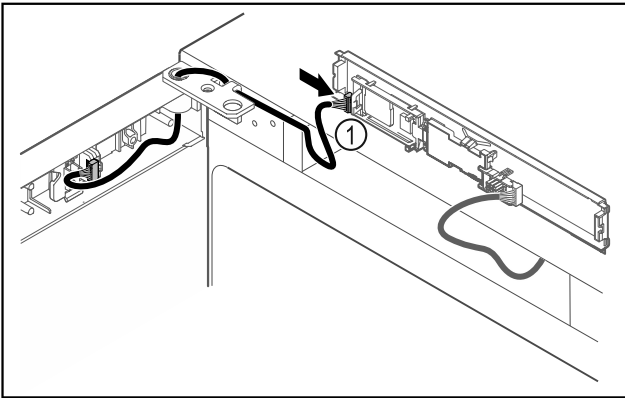

Fig. 49
- Connect the plug *Fig. 49 (1)* to the circuit board.